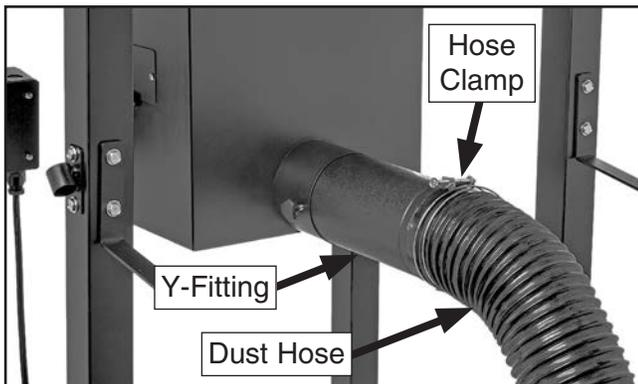

Figure 11. Example of 4" dust hose connected Y-fitting.
1. Fit a 4" dust hose over dust port (see **Figure 11**), and secure with wire hose clamp.